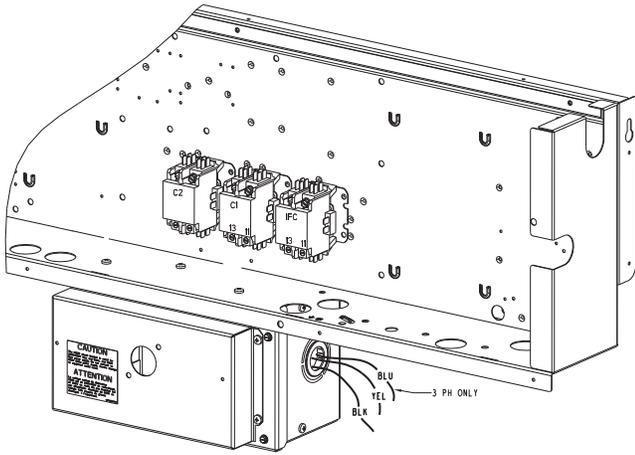

Fig. 22 — HACR Enclosure Location
2. Remove (3) hex screws on the HACR enclosure — (2) on the face of the cover and (1) on the left side cover. See Fig. 22.